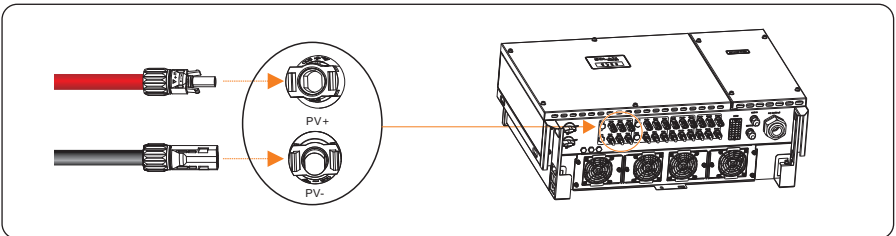

Figure 5.13 Connecting to the inverter
Step 6 Insert the positive and negative connectors into their corresponding terminals of the inverter until a "click" sound is heard, as shown in Figure 5.13.